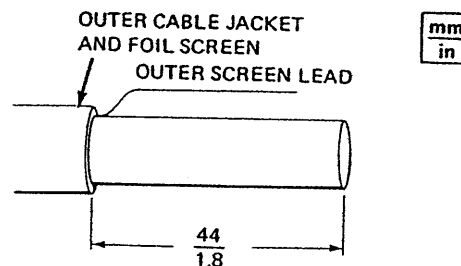

Figure 26.
1. Strip back outer jacket and foil screen (shield) as shown in Figure 26. Do not cut screen lead.